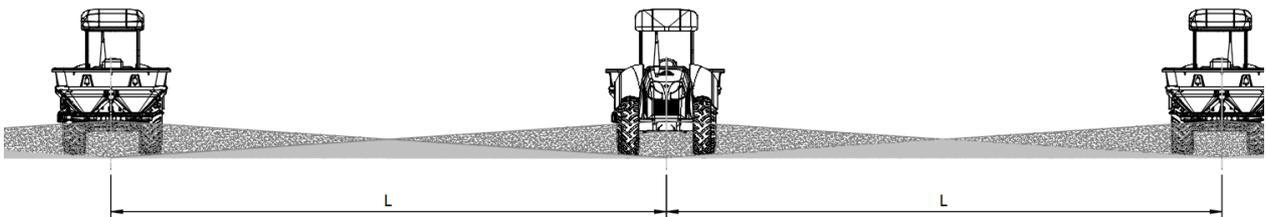

Figure 4.6 - Ex. triangle spread - 100% overlap
The machine can be used to spread at full width (L) without using the device shown above. For this type of work, which is the most common, the machine performs a spreading scheme identical to the one shown in the following figure (*Figure 4.6*), usually in the shape of a triangle, with an overlap of approximately 100%.